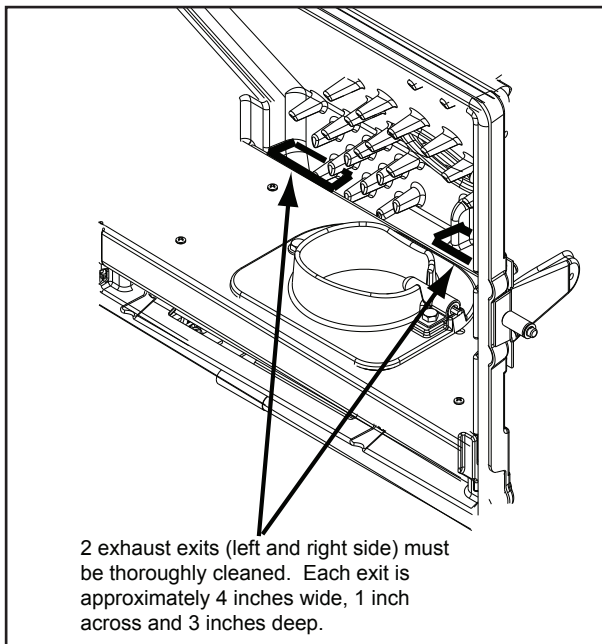

Figure 38.2
- d. Use the crevice tool to finish cleaning the heat exchanger fins. It is critical that the 2 exhaust exits at the back of the firebox floor (left and right) be thoroughly cleaned. **Figure 38.2.** There are several ways this can done.